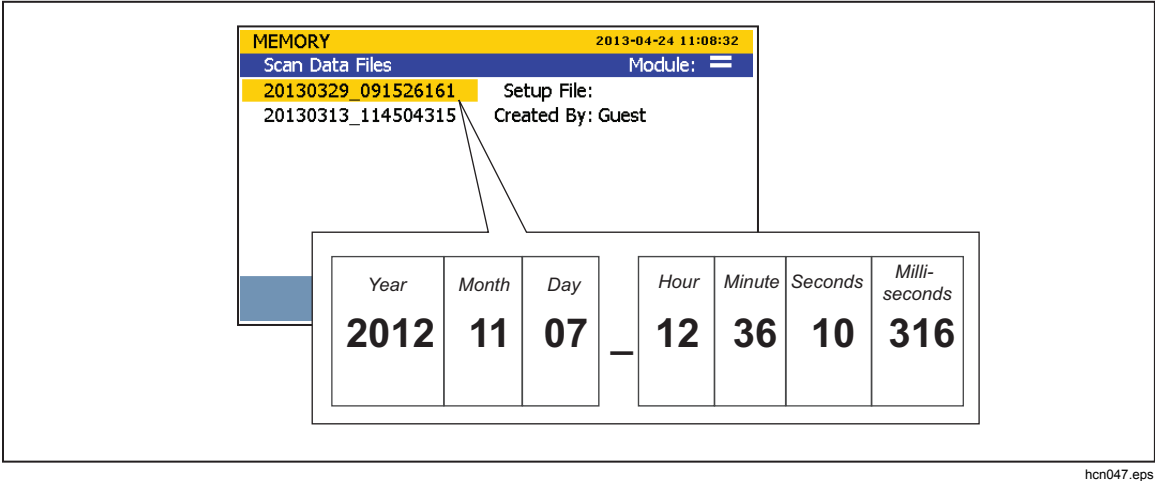

Figure 4-8. Scan Data File Name Convention
- e. Double-click on the **scan** folder to see scan data files or the **DMM** folder to see DMM data files. The data files are saved within a folder that was named with a timestamp of when the scan or measurement was recorded. This file naming convention is illustrated in Figure 4-8.